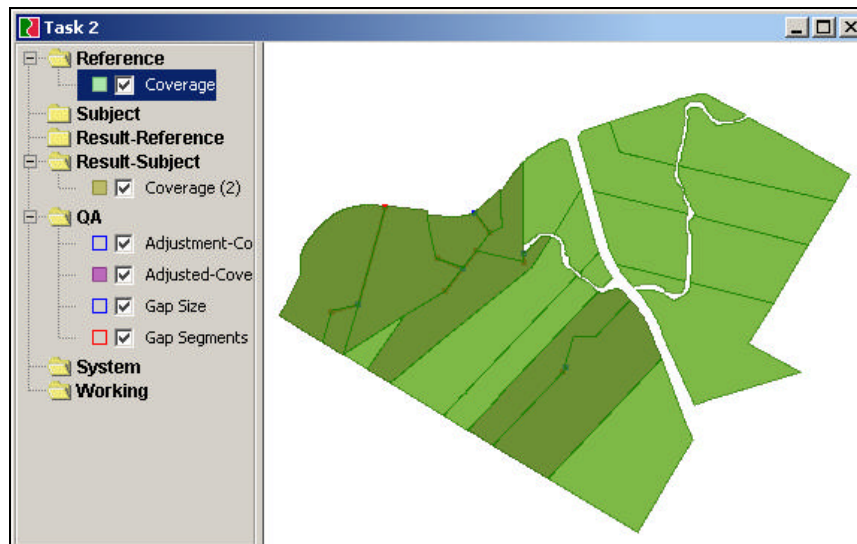

Figure 3-8 - Layers created by the Remove Coverage Gaps function
- When the Remove Coverage Gap function executes it will create a new, modified version of the input data layer as well as some layers containing features which allow you to QA the results of the process if desired (see Figure 3-8 above). The layers are created under two different categories. In the following table, dataset is the name of the input layer.